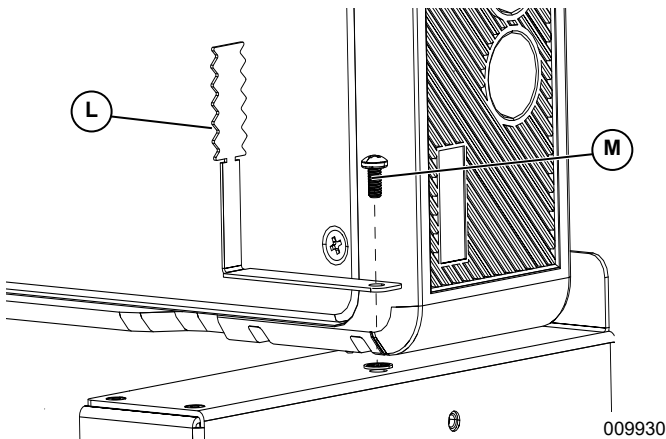

Figure 4-8. Installing Bottom Grounding Tabs
1. See Figure 4-8. Install two L-shaped grounding tabs (L) at the bottom of the module on both sides.
2. Fasten each grounding tab with a M4x8 mm SEMS screw (M) torque to 13 in-lb (1.47 Nm).